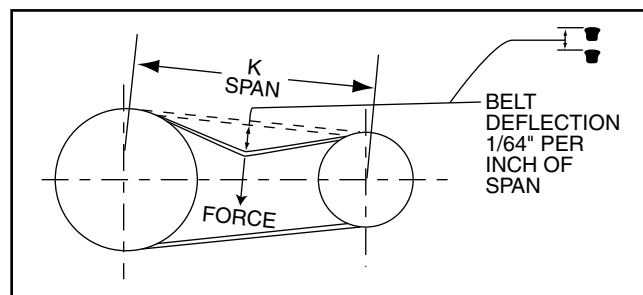

Figure 55 - Simple Tensioning Procedure
2. At the center of the span (K), apply a force (perpendicular to the span) large enough to deflect the belt $1/64$ " for every inch of span length. For example, the deflection of a 100-inch span would be $100/64$ or $1\frac{9}{16}$ inches. See Figure 55.